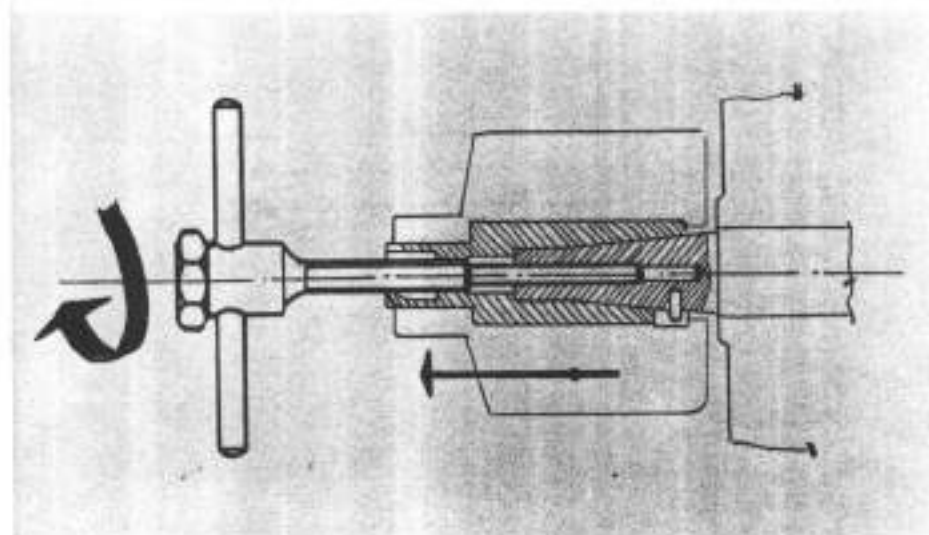

Fig. 14 - Extraction of generator rotor
- c) rotor - fixture No. 09 (fig. 14)